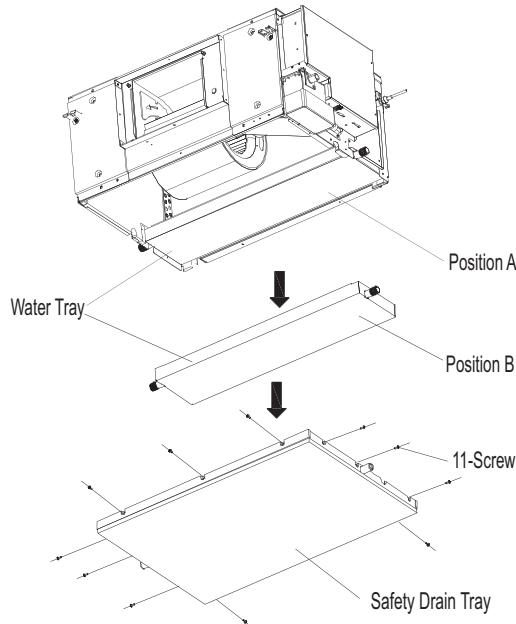

Fig. 36 —Fan Disassembly (024-036)
1. Remove the 11 screws from the Safety Drain Tray and remove the tray along the direction of the arrows in Fig. 36.